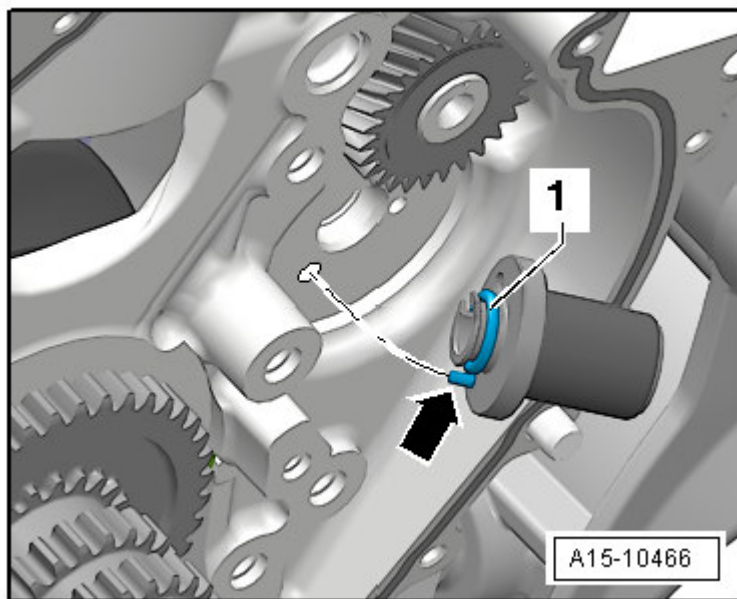

Fig. 16: Identifying Bearing Pins - Installation Position
- Installed position, refer to **Fig. 16**.